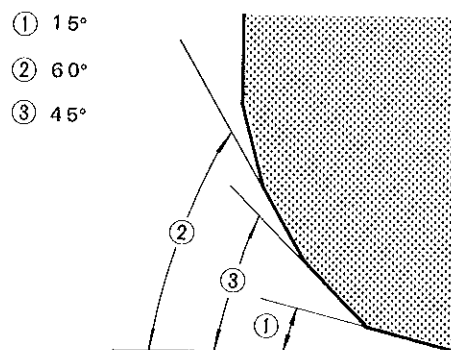

Fig. 4-68 Valve seat angles for inlet valve seat
2) INLET VALVE SEAT: The cutting sequence is the same as for exhaust valve seats but the second angle differs, as will be noted in Fig. 4-68.